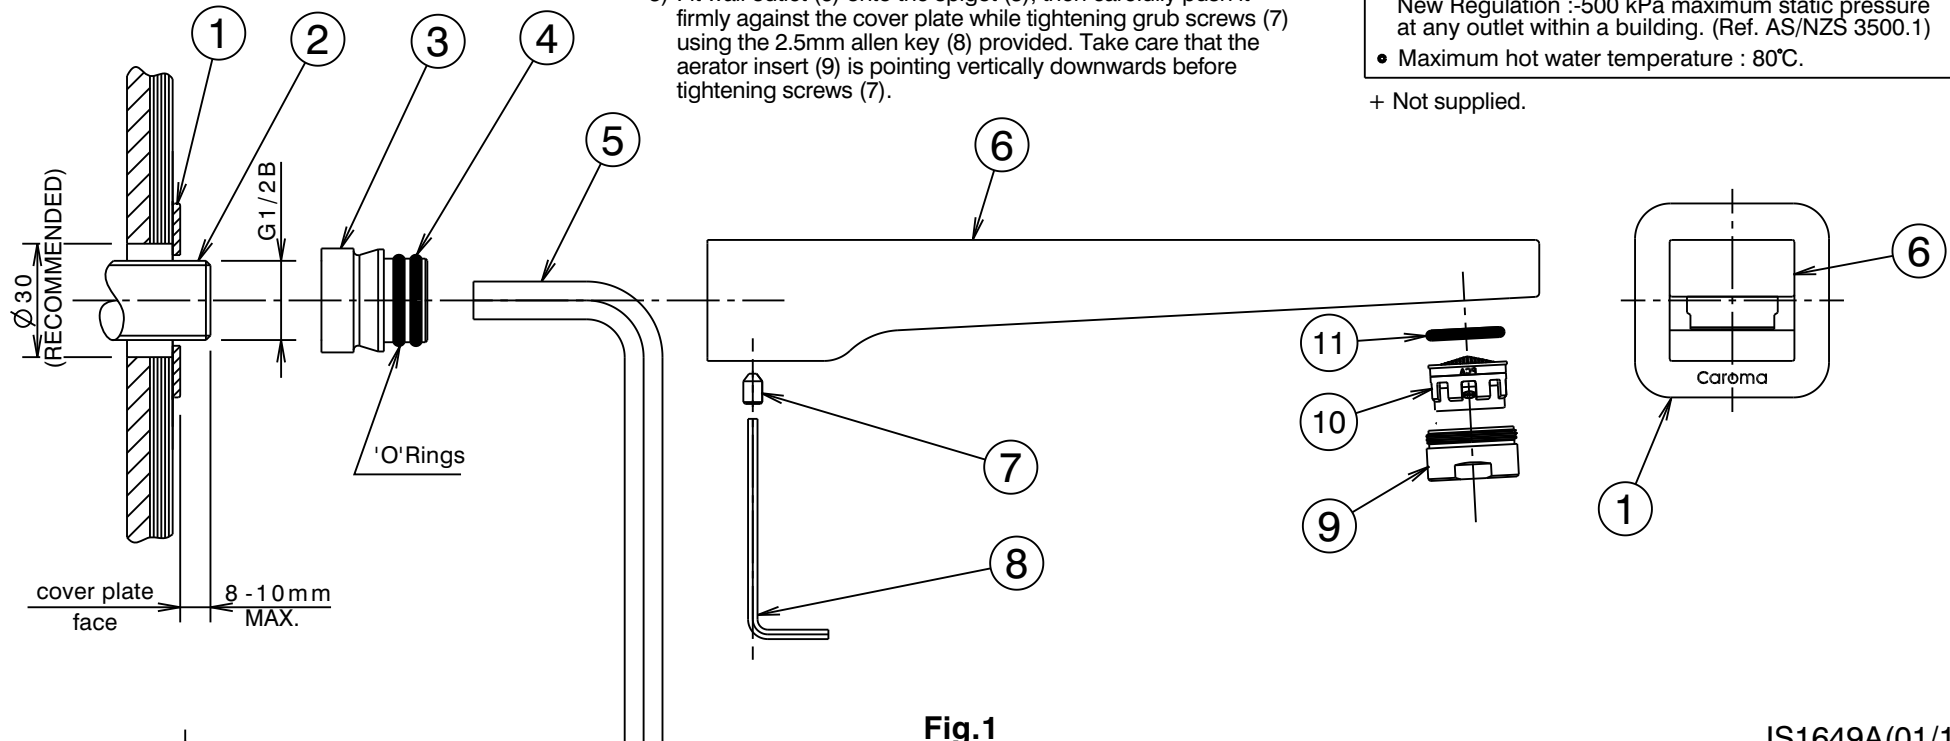

Fig.1
- 1) Fit the cover plate (1) over threaded nipple (2) and check that the thread is the correct length, as shown (Fig.1). Cut to length if required ensuring end face is square. Apply thread tape to the thread.